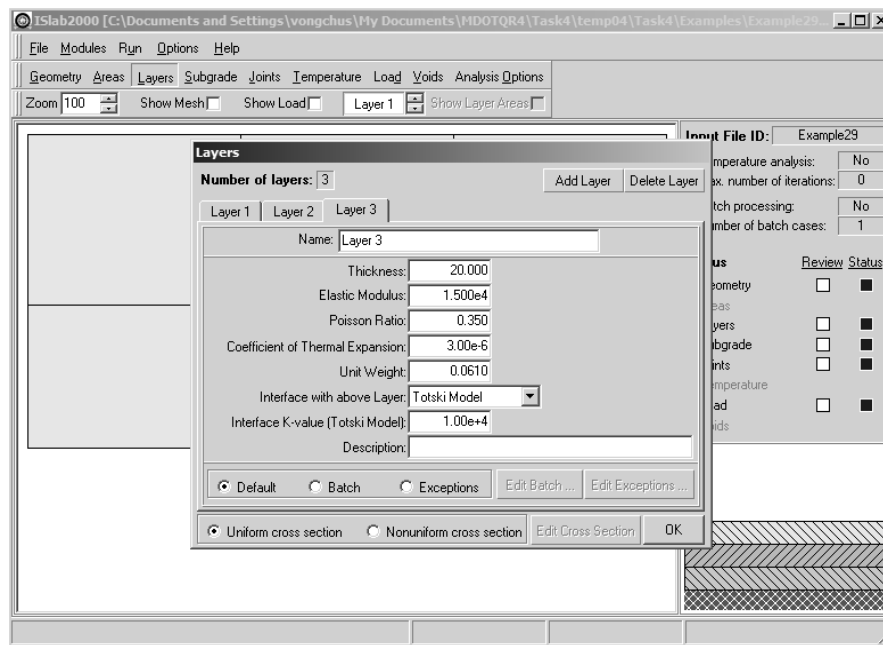

Figure E30-2: Edit Inputs for the Layers Module
(see Figures E30-2)
- Step 2: Add a third layer, and then enter the layer properties for sand subbase as illustrated in Figure E30-2.